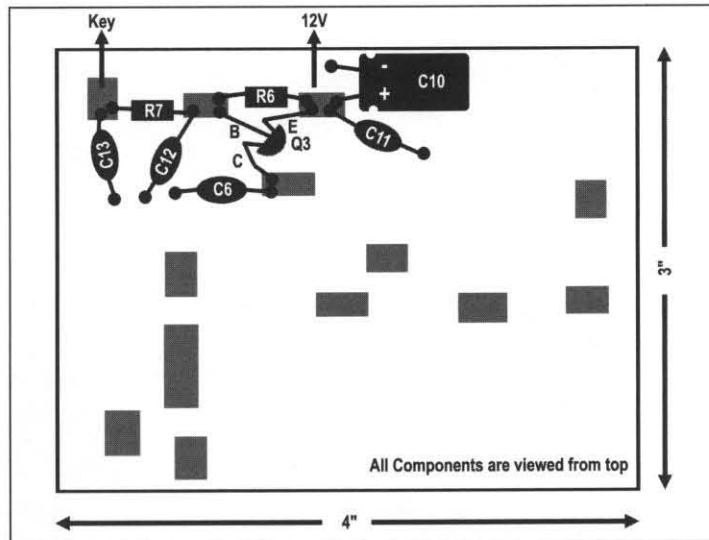

Figure 3. Placement of the keying section components.
opportunity to get used to Manhattan-style building (see Figure 3). For Building Day participants, it provides instant gratification too—just watch those eyes light up when a builder grounds the key line and sees the keying voltage follow!
- ___ Orient board as shown in Figure 3